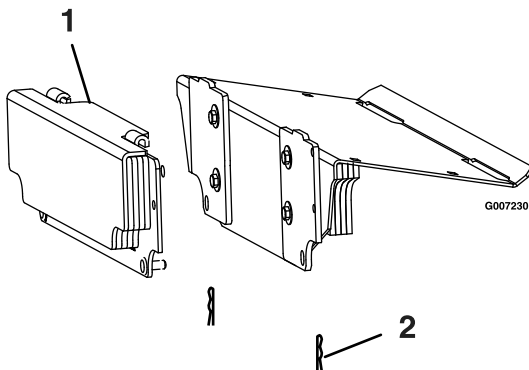

Figure 8
12. Hook weight plate assembly over the top of the weight mounting plates and secure with two hairpins as shown in Figure 8).